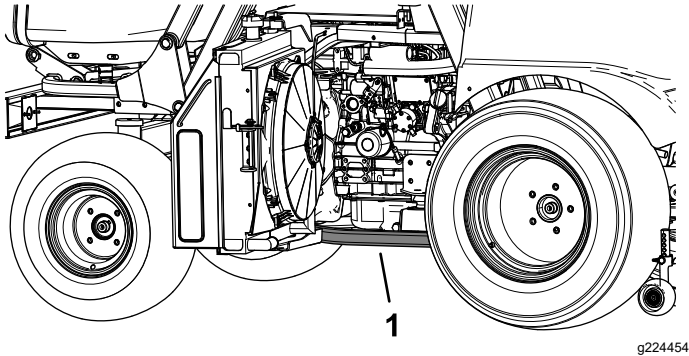
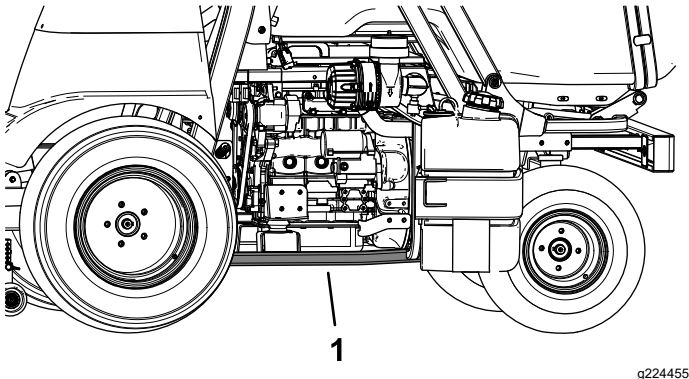

Figure 38
Figure 39
2. Place a jack under the frame tube (Figure 38 and Figure 39), directly under the ROPS tube, or as close as possible.